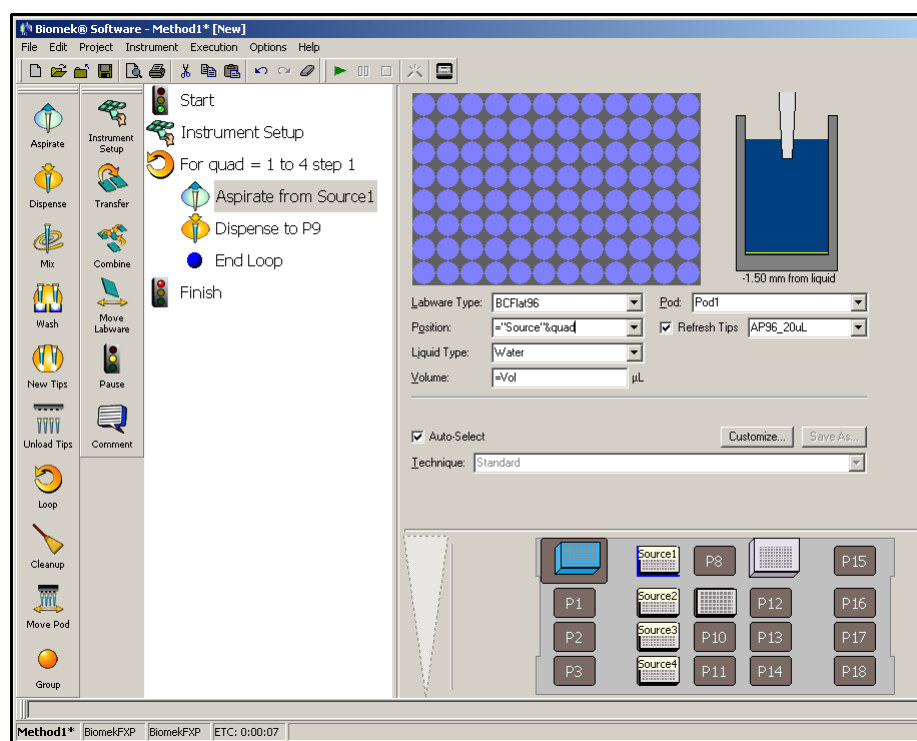

Figure 3-10. Aspirate step using Loop variable *quad* in an expression
1. In the **Aspirate** step configuration, change the **Position** to **=“Source”&quad** (including the equal sign and with no spaces), as shown below in Figure 3-10. Values in quotes are text strings and are always evaluated as the same value.